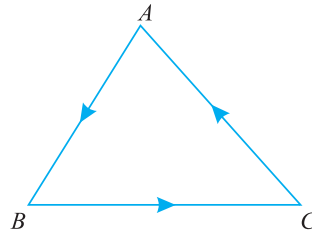

Fig. 4.15.
**Example 4.9.** Three forces, acting on a rigid body, are represented in magnitude, direction and line of action by the three sides of a triangle taken in order as shown in Fig.4.15